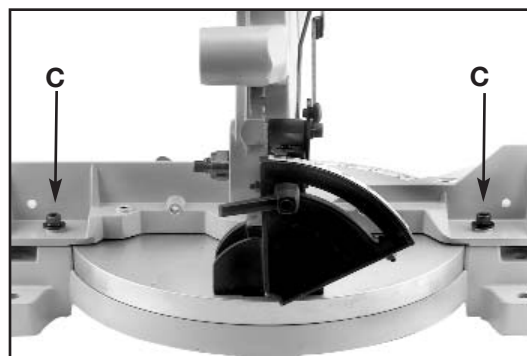

Fig. 19
5. To adjust, loosen the two screws (C) Fig. 19, and adjust the fence until it is 90 degrees to the blade. Tighten two screws (C).